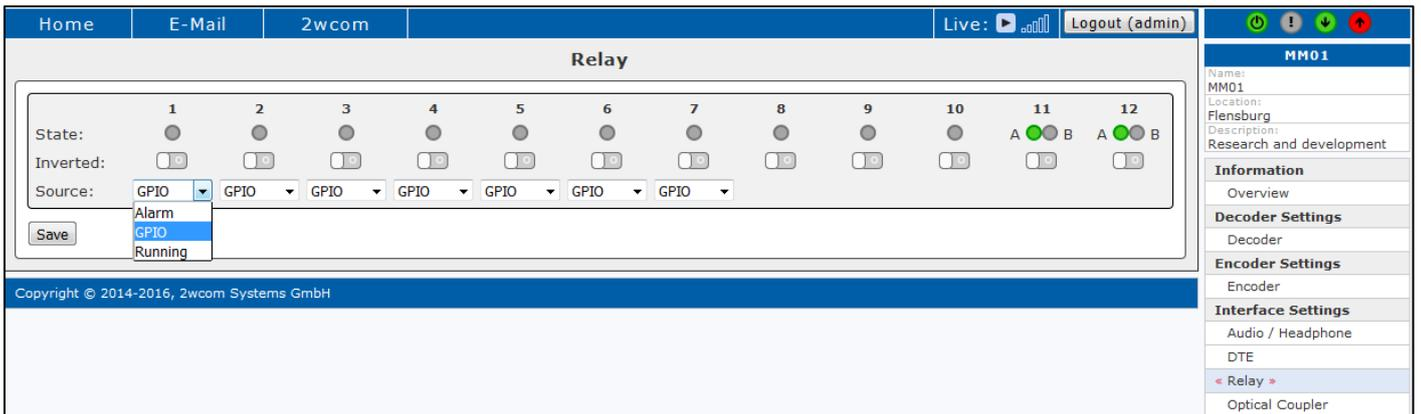

Figure 58: Interface Settings – Relays-Status
You can view the current state of the relays and invert the relay contacts under **Interface Settings**→**GPO** (former versions **Interface Settings**→**Relay**) (see Figure 58).
- Open the menu "Relay" under **Interface Settings**→**GPO** (former versions **Interface Settings**→**Relay**) (see Figure 58).